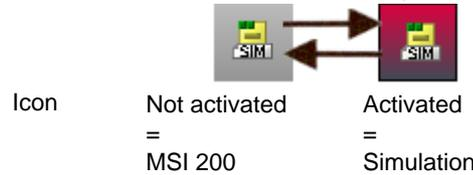

Figure 5-19 "Simulate Safety Controller" icon
- Execute the same steps in the MSIsafesoft configuration software as you would if you were working with the real safety controller, but ensure that the "Simulate Safety Controller" icon in the toolbar is activated (see Figure 5-19 on page 5-24). This means that you can force signals or display online values in the connection editor as usual. The simulation continues to run in the background, with the icon visible in the taskbar notification field (system tray, known as systray for short).